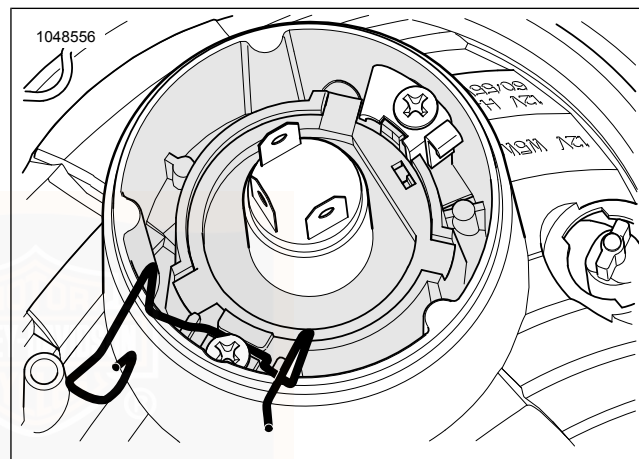

Figure 58. Headlamp Retainer clip Open
- c. See Figure 58. Pivot retainer clip upward 45°.
- c. See Figure 58. Move the retainer clip inward to the locked positions.